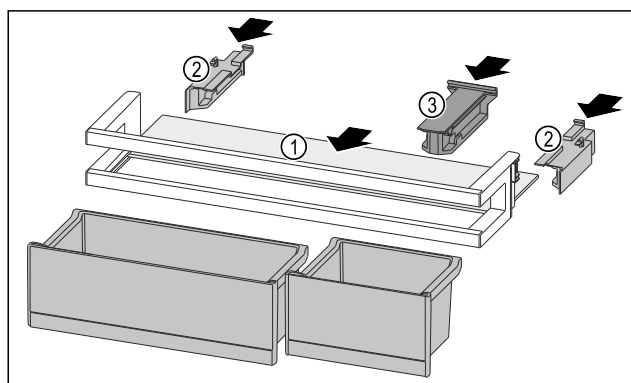

Fig. 119
- Push the shelf Fig. 119 (1) into the side recesses.
- Insert the side parts Fig. 119 (2).
- Insert the holding part Fig. 119 (3).